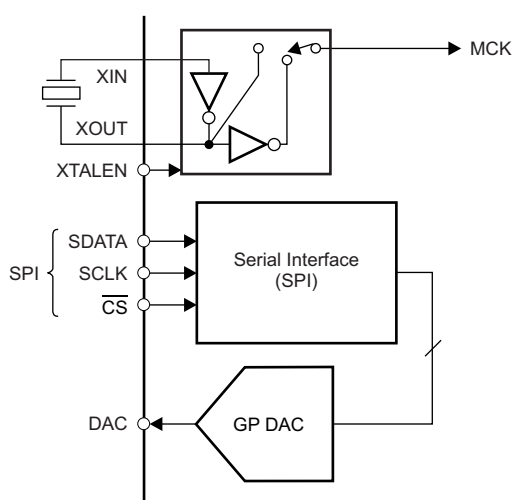

Figure 11. Common Section Block Diagram
Each setting of the AFE and timing generator (TG) is programmed with a serial interface (SPI). Some register settings are stored in the buffer through the SPI. This configuration is activated by a defined timing. For example, some areas of the register are activated at the VD active edge. A system reset function is supported by a function pin or register. For MCK, both external MCK and crystal input methods are supported. The GP DAC can be used as an external circuit. Figure 11 shows a block diagram of the Common section.